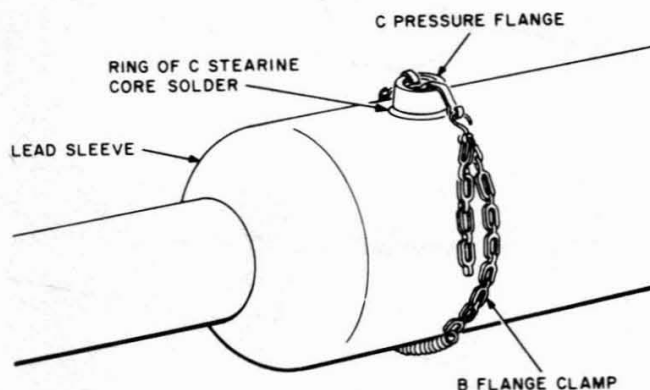

Fig. 6—Placing C Pressure Flange
(5) To hold the flange in place, engage the flat hooks of the B flange clamp in the upper edge of the flange as shown in Fig. 6 and adjust the length of the chain by engaging the appropriate links in the open S hooks. Center the spring to equalize the tension on the chains.